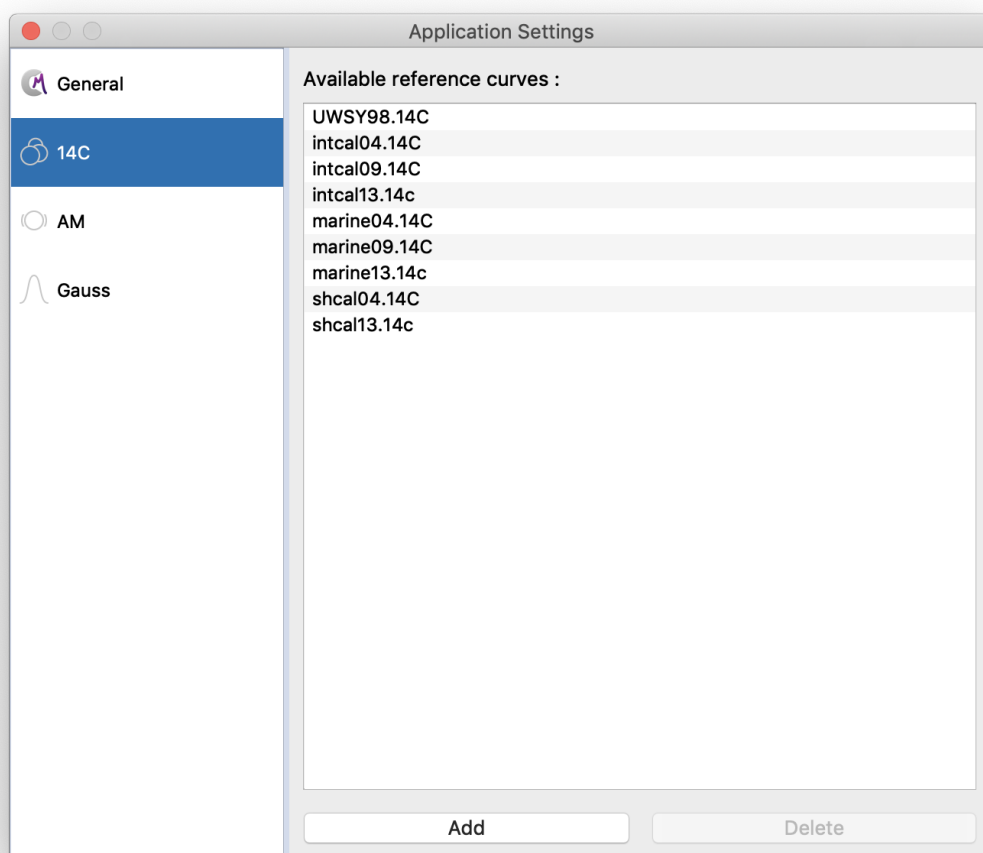

Figure 25 – Application Settings - Reference curves for 14C date
4.3.1.1 Reference curves In ChronoModel, several calibration curves are already implemented. These curves are listed in Table 1. When adding a radiocarbon date, you can select one of these reference curves using the drop-down menu. Other curves may be included in ChronoModel from the **Application Settings** . Figure 25 shows the window from which it is possible to add a new reference curve.
4.3.2.1 Reference curves Several reference curves are implemented in ChronoModel. They are listed in Table 2. Other curves can be included in ChronoModel from the **Application Settings** . See Figure 25 that shows the windows allowing to add a new reference curve.
Since ChronoModel version 1.5, a third option has been implemented. You can load a CSV file containing a different calibration curve. To do this, select the last option **Use custom curve file** and choose a file from the drop-down menu. If your file is not already included in ChronoModel, use the **Application Settings** window to add/delete another file. See Figure 25 that shows the window allowing to add a new reference curve for the radiocarbon date.